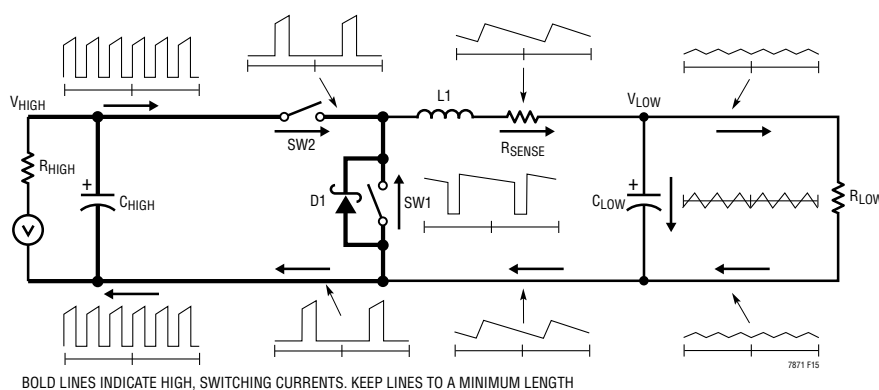

Figure 15. Branch Current Waveforms (Buck Mode Shown)
When laying out the printed circuit board, the following checklist should be used to ensure proper operation of the IC. These items are also illustrated graphically in the layout diagram of Figure 15. Check the following in the PC layout:
8. The ceramic capacitors between each ITH pin and signal ground should be placed as close as possible to the IC. Figure 15 illustrates all branch currents in a switching regulator. It becomes very clear after studying the current waveforms why it is critical to keep the high switching current paths to a small physical size. High electric and magnetic fields will radiate from these loops just as radio stations transmit signals. The C_{LOW} ground should return to the negative terminal of C_{HIGH} and not share a common ground path with any switched current paths. The left half of the circuit gives rise to the noise generated by a switching regulator. The ground terminations of the bottom MOSFET and Schottky diode should return to the bottom plate(s) of the V_{HIGH} capacitor(s) with a short isolated PC trace since very high switched currents are present. External OPTI-LOOP® compensation allows overcompensation for PC layouts which are not optimized, but this is not the recommended design procedure.